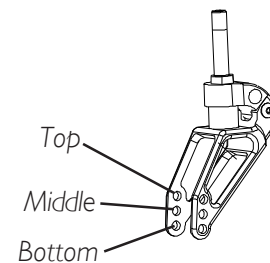

FIGURE 8 - REPLACING/ADJUSTING CASTERS
REPLACING/ADJUSTING CASTERS (FIGURE 8)
1. Determine the desired mounting hole for the caster installation. Refer to DETAIL "A" in FIGURE 8.
2. Line up the front caster and two (2) spacers with the mounting hole in the fork determined in STEP B-1.
3. Reinstall the bolt and locknut through the fork, front caster and two (2) spacers.